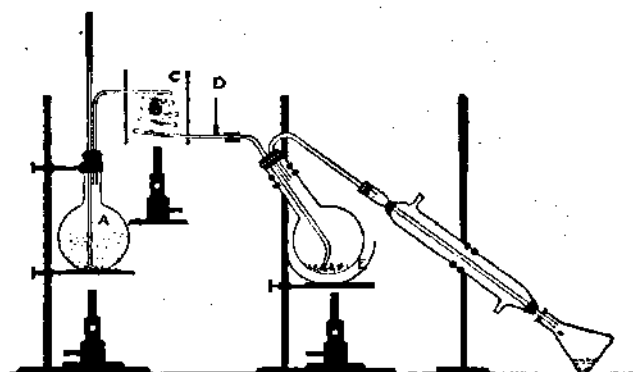

FIG. 31A.—Distillation with Superheated Steam.
15. What is the advantage of distillation by superheated steam (Fig. 31A) over steam distillation.